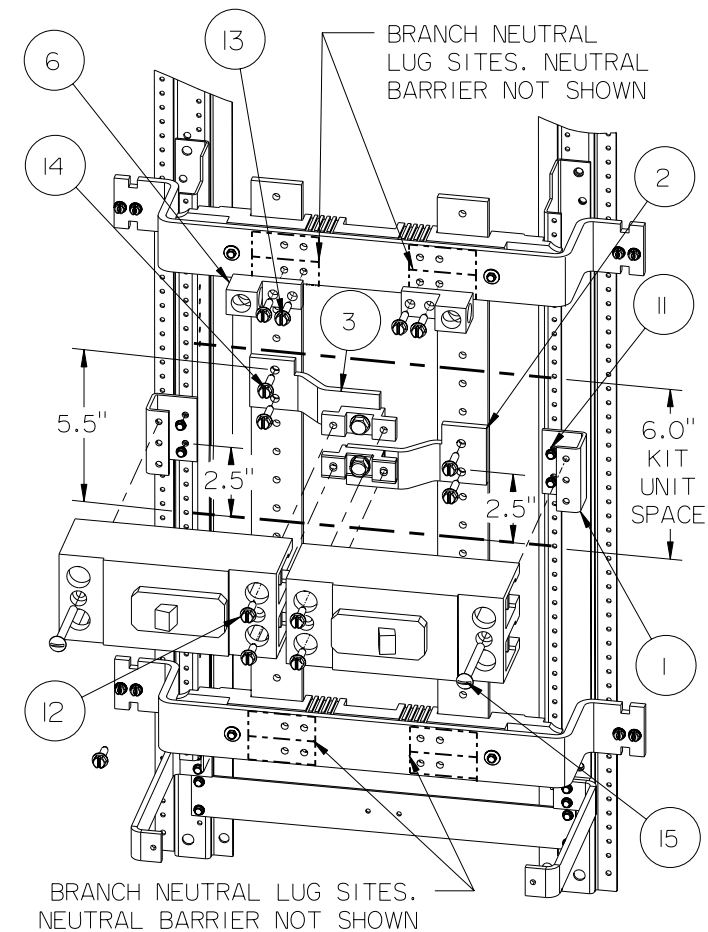

Figure 2
5. Refer to fig. 2. - Fasten the breaker supports (item 1) to the base rails in the center of the 6" kit unit space, with four 8-32 Screws (item 11). Fasten the Type A outer connector (item 2) and the Type B outer connector (item 3) to the panel bus with four 1/4-20 X 1" Screws (item 14).
7. Position each breaker with its load-side mounting hole aligned with the upper hole in the breaker support (item 1). Bring the breaker line pads into contact with the connectors. Fasten each breaker to its support with one 1/4-20 X 2-1/2" machine screw. (item 15). Do not tighten until the bus connections are made. Fasten each breaker's line pads to the connectors with two 1/4-20 X 5/8" Screws (item 12).
8. If this kit is installed in a panel with a neutral, fasten the two branch neutral lugs (item 6) to any of the eight indicated sites on the upper and lower neutral cross bus parts with four 1/4-20 X 3/4" Screws (item 13).